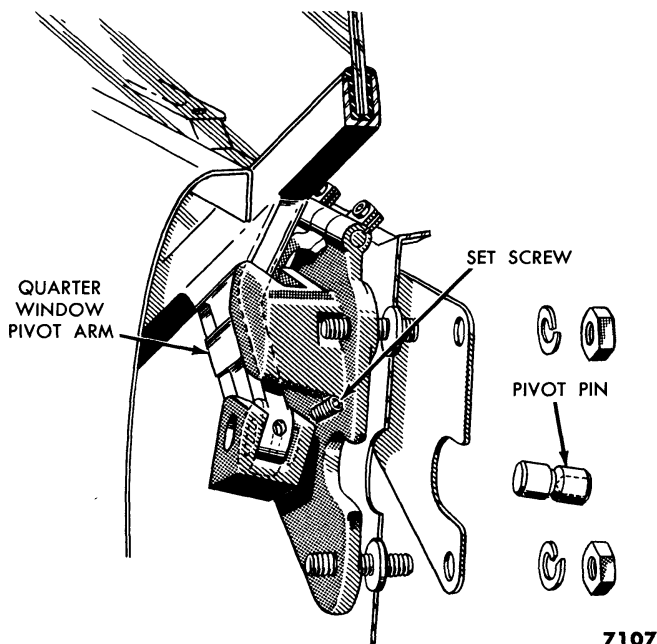

Fig. 27—Quarter Window Bracket and Hinge Assembly
(1) **REPLACEMENT.** Remove the quarter trim panel. Disconnect the regulator arm from the roller in the glass channel (fig. 26). Loosen the screw at the pivot arm (fig. 27). Install a $\frac{1}{4}$ inch-20 bolt in the pivot pin and use it as a puller to remove the pivot pin (figs. 26 and 27). It may be necessary to raise and lower the glass to free the pivot pin. Remove the window stop. Remove the two screws from the guide button retainer, and remove the retainer and button assembly. Lift the window out of the quarter panel.
Before installing the quarter glass assembly, lubricate the pivot bracket with light engine oil, and assemble the roller to the glass channel. Position the pivot arm of the quarter window assembly in the pivot bracket with the hole in the arm aligned with the hole in the bracket, then install the pivot pin (fig. 27). Lower the glass in the runs, and connect the regulator arm to the roller in the glass channel.
Raise the top, raise the window, and adjust the window to the top at the hinge bracket. To make this adjustment, loosen the lock nuts on the adjusting screws (figs. 26 and 27), and with an Allen wrench, turn the adjusting screws in or out as required to change the position of the hinge assembly. Since the quarter window assembly is mounted in the hinge assembly (fig. 27), any movement of the hinge will change the position of the window assembly. Enlarged holes in the hinge bracket and inner quarter panel permit fore and aft movement. By using any one of the three adjusting screws as a pivot and by adjusting the other two in or out, the window can be tilted at any desired angle.